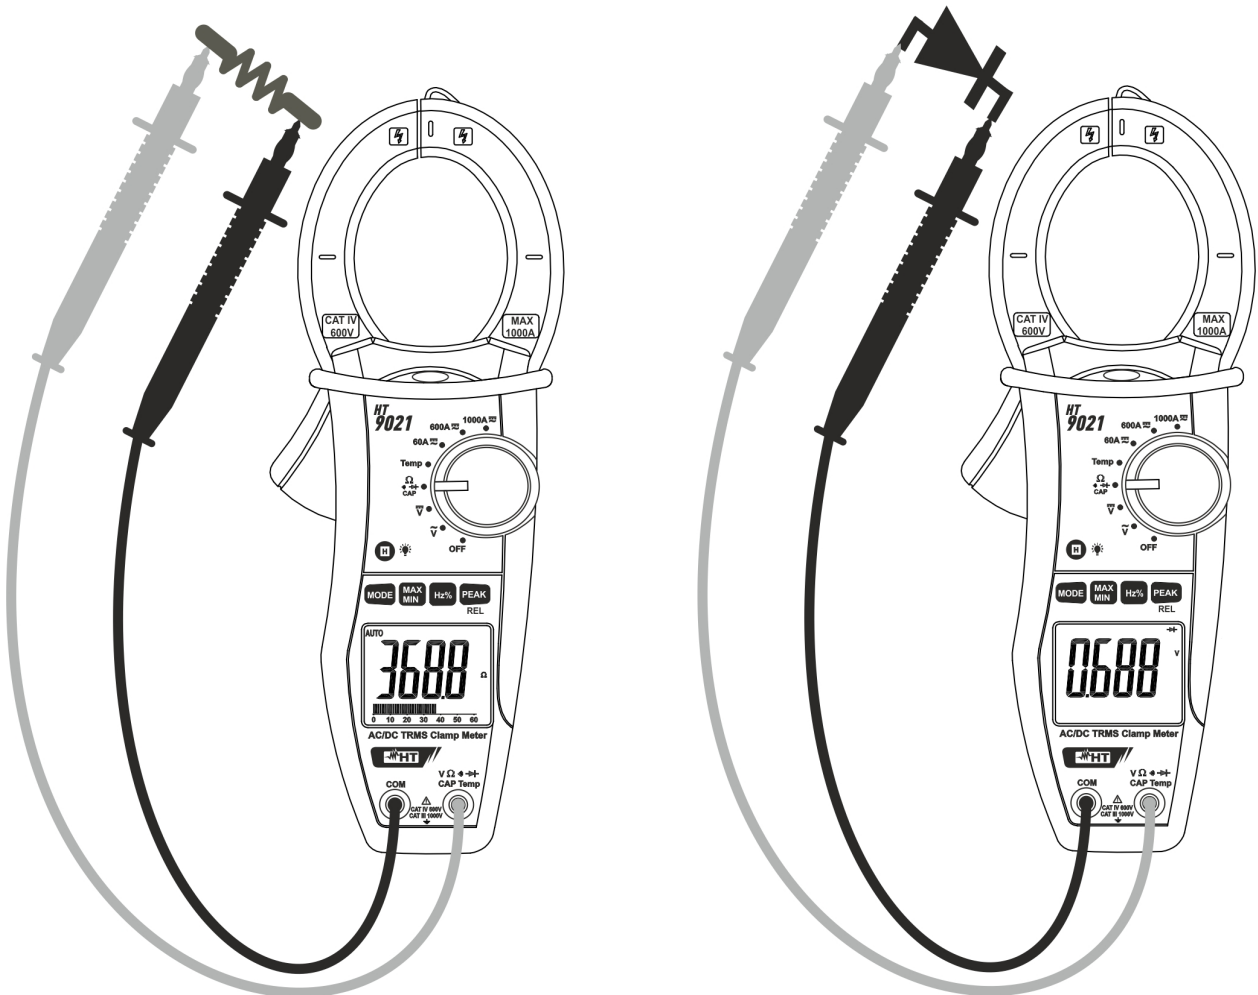

Fig. 6: Taking Continuity test and Diode test
3. Insert the red test lead plug into $V\Omega$ $\rightarrow$ $\rightarrow$ CAP Temp jack and the black test lead plug into **COM** jack and perform continuity test on the object under test (see Fig. 6 – left side). Buzzer emits sound if the measured resistance value is less about 60Ω
5. Connect the red test leads to the anode of diode on test and the black test lead on the cathode ones (see Fig. 6 – right side). Reverse position of test leads to reading reverse polarization voltage